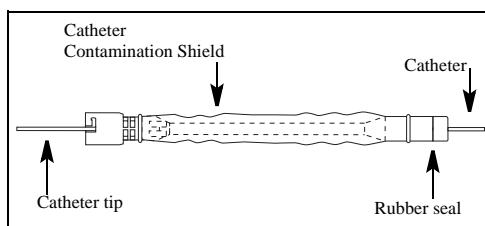

Fig. 1
5. Insert tip of desired catheter through rubber seal end of catheter contamination shield. Advance catheter through tubing and hub at other end (refer to Fig. 1).